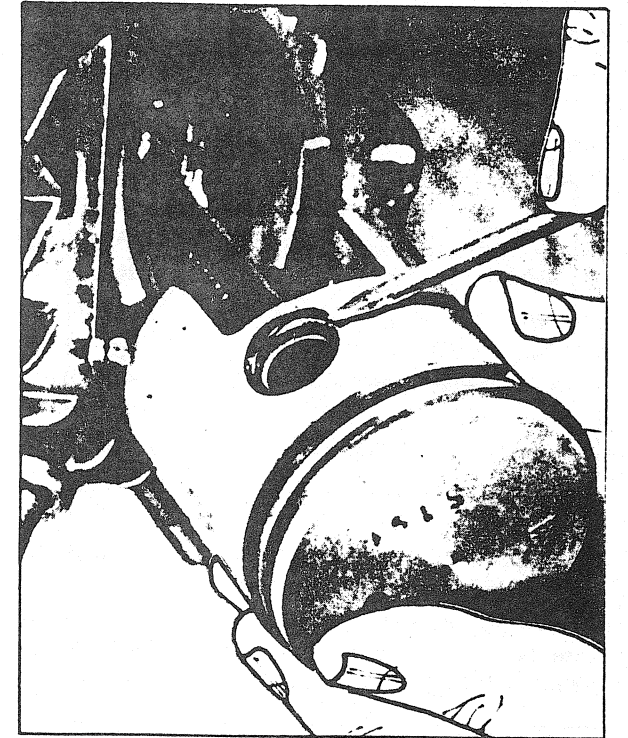

FIGURE 19
- With a pointed tool (ice pic) remove the two (2) circlips from each pistons (fig. 19).